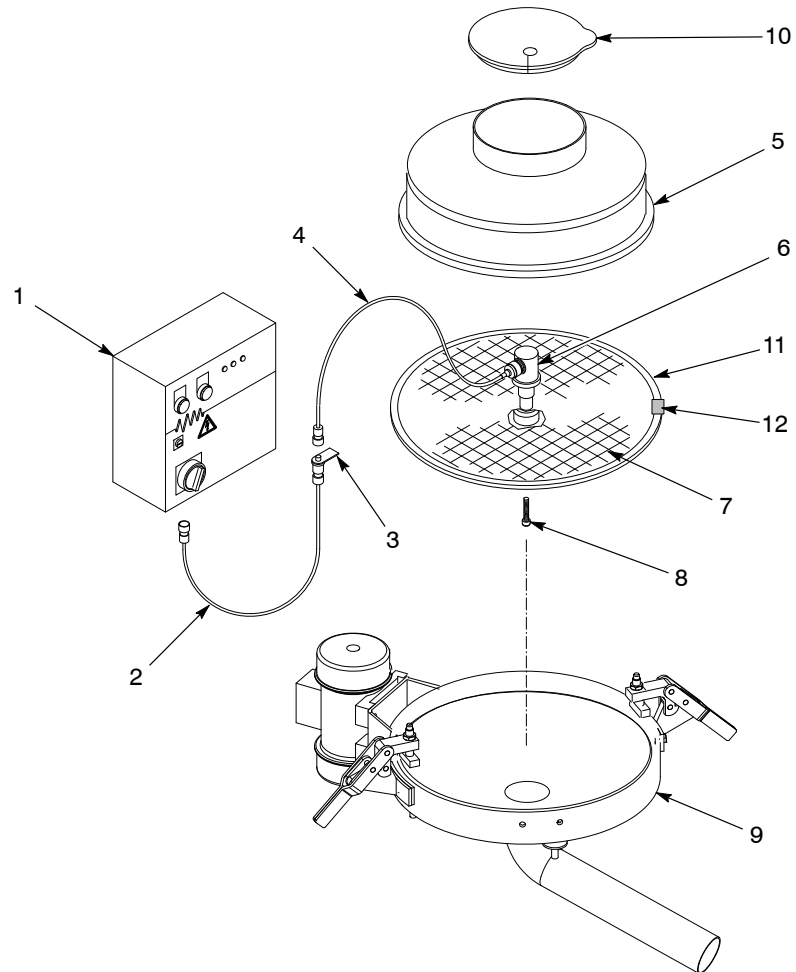

Figure 10-3 Vibrasonic System Components
See Figure 10-3.
1. See Figure 10-3. Clean the sieve screen's (7) center hub and the bottom of the transducer (6) with acetone.
1. See Figure 10-3. Make sure that the voltage selector on the controller (1) is set to your system's electrical supply specification.